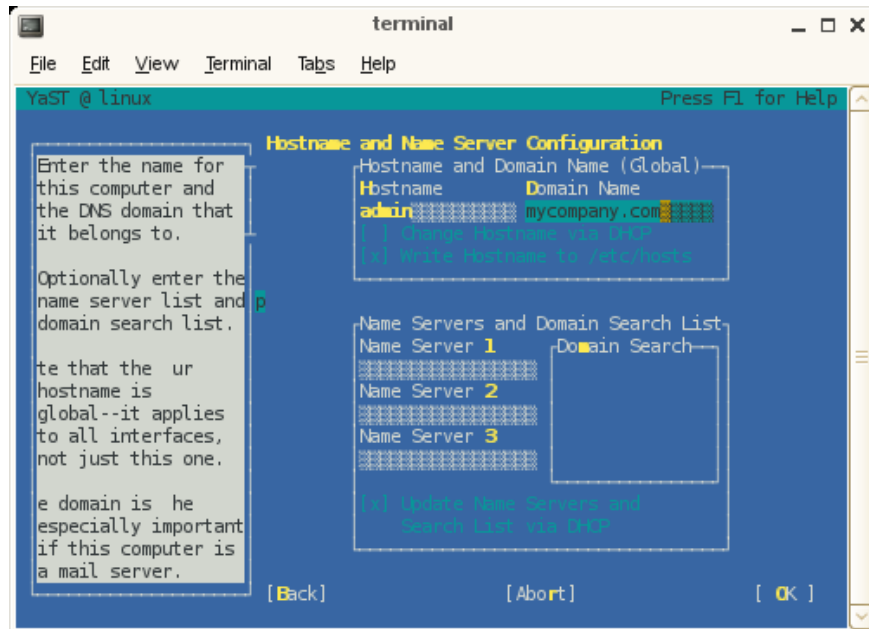

Figure 2-7 Hostname and Name Server Configuration Screen
- From the **Hostname and Name Server Configuration** screen, enter the name and DNS domain name as shown in Figure 2-7 on page 40. Note that the hostname was entered in step 7.